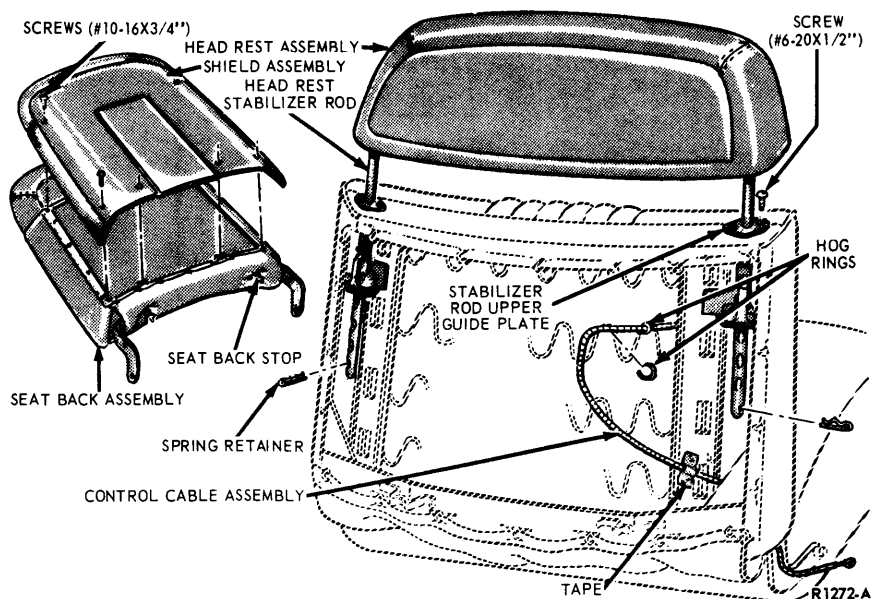

FIG. 4—Seat Back Shield and Headrest Assembly
the adjusting handle, located at the seat back right side pivot, by a control cable which is routed through the seat back (Fig. 4).
screws (Fig. 4) and remove the guide plate.
8. Remove the seat back stops (Fig. 4).
7. Remove the headrest stabilizer rod upper right guide plate retaining screws (Fig. 4) and remove the guide plate.